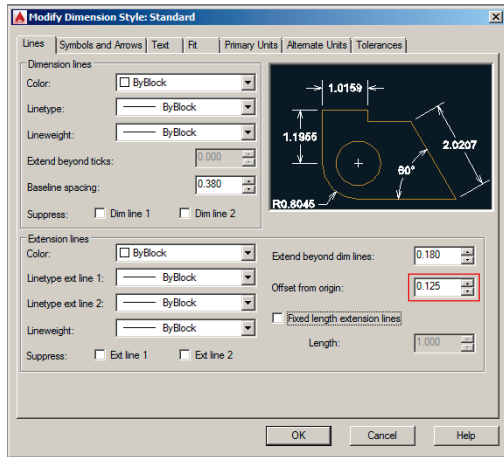

FIGURE 11.6 Increasing the offset from origin distance
5. Select the Lines tab. Double-click the Offset From Origin value to select it, type **0.125**, and press Tab (see Figure 11.6). Observe in the preview image how the distance between the object and its extension lines increases. Click OK and Close to save the modifications you've made to the Standard style.